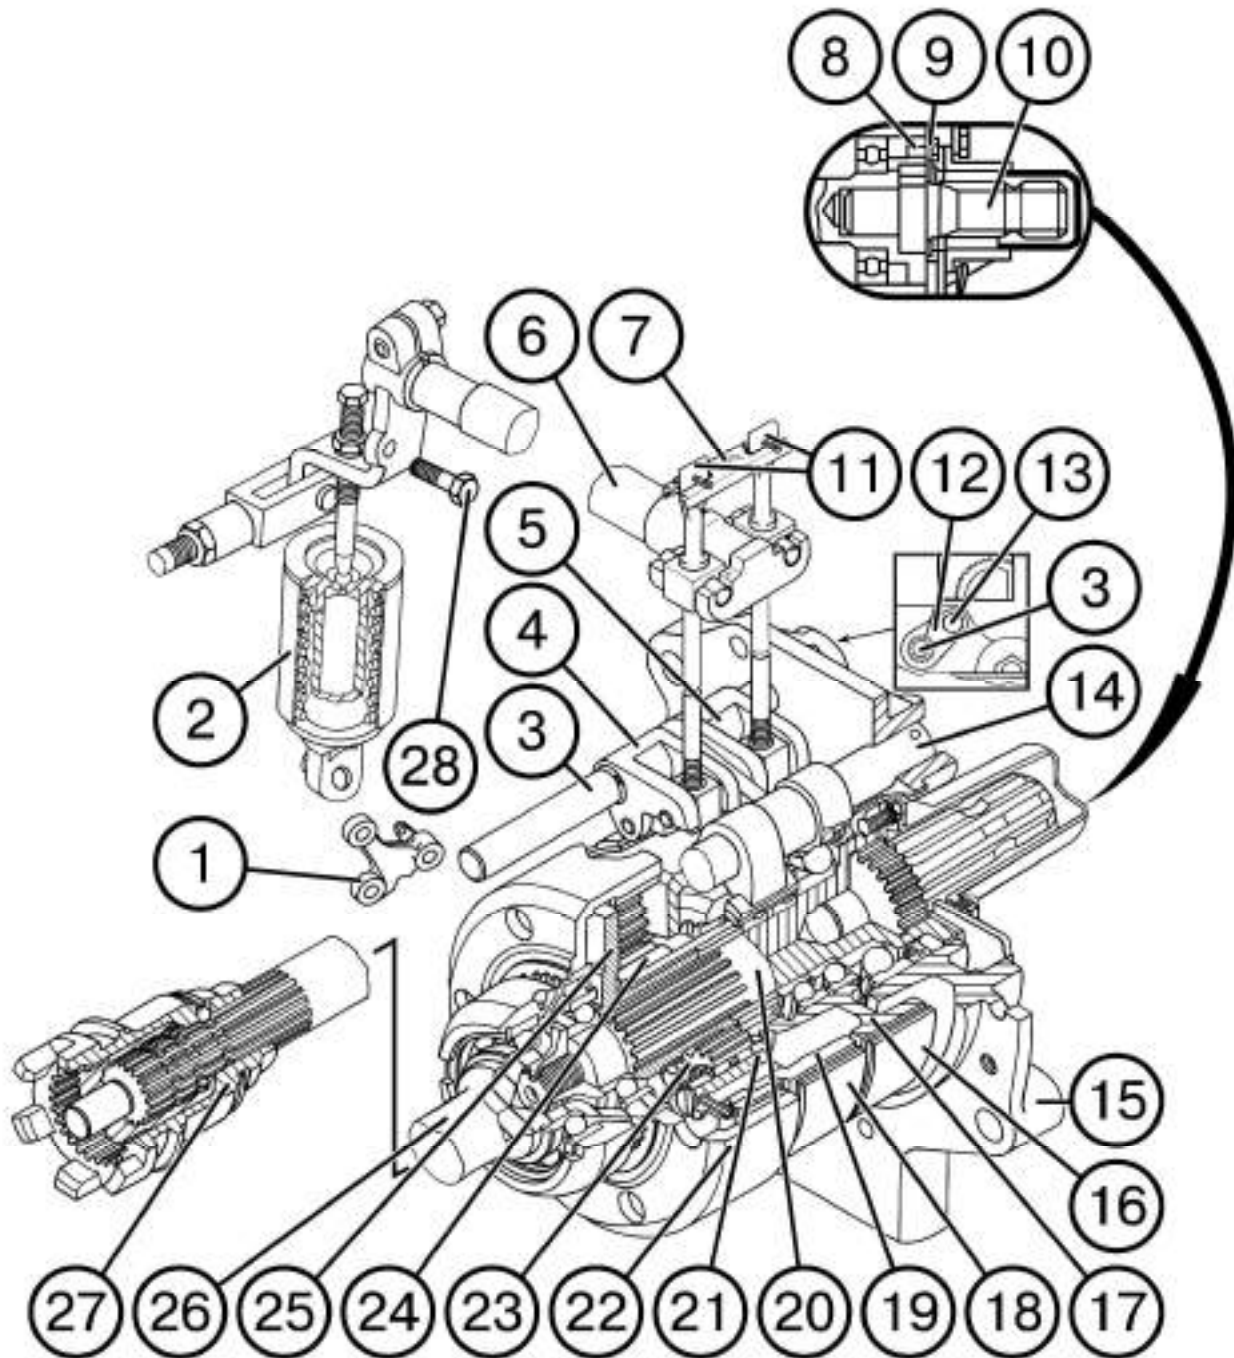

Fig. E-22. Rear PTO epicyclic reduction gear:
The **independent drive** is provided from the bearing disk of the clutch via a two-speed PTO drive reduction gear, inner GB shaft (18) (Fig. E-14), drive shifting clutch (27) (Fig. E-22) onto the crown gear shaft (26) of the PTO epicyclical reduction gear.